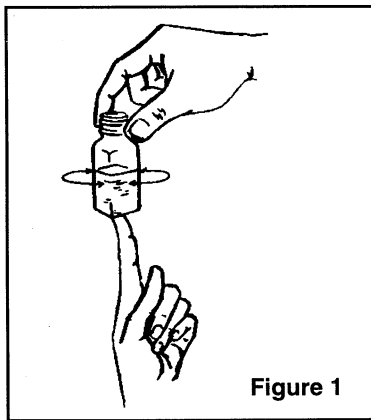

Figure 1
3. Add demineralized water to the mixing bottle to the 20-mL mark. Swirl to mix as shown in Figure 1.
7. To obtain the value as mg/L phosphorus (P), divide by 3 the value obtained in Step 6.